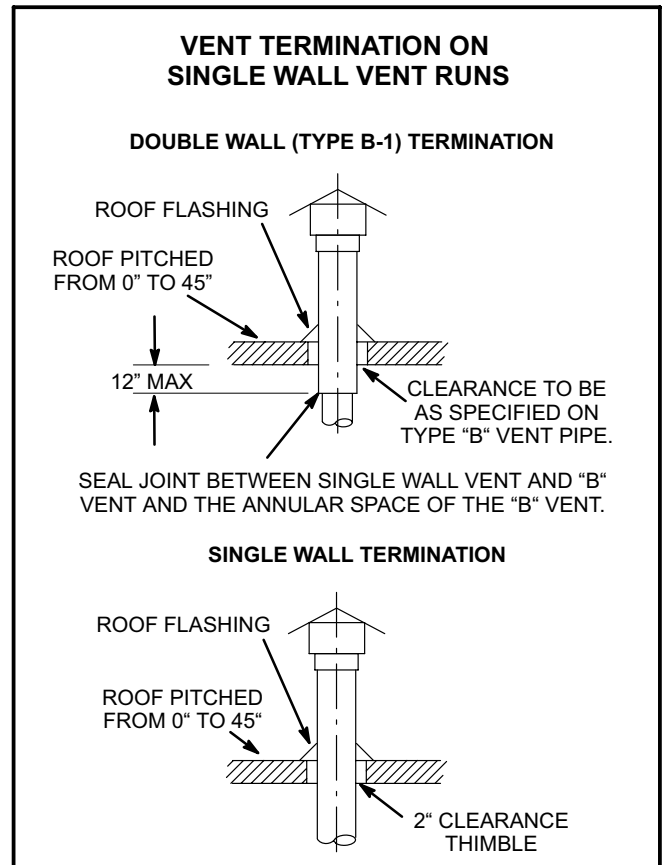

FIGURE 2
- 1 - These unit heaters are to be used with NFPA- or ANSI- approved chimneys or U.L. listed type B-1 gas vents, single wall metal pipe, or listed chimney lining system for gas venting where applicable, as well as the modifications and limitations listed in figure 2. Seal single wall vent material according to section **General Recommendations and Requirements**.
9 - When termination is routed through combustible wall, vent termination must be supported using a firestop to maintain clearances specified on unit rating plate. Where local authorities permit, a B1 vent insert may be used as an alternative to the firestop. Refer to figure 2 for additional notes regarding B vent. Inside edge of vent termination must be at least 12" (305mm) from outside wall.